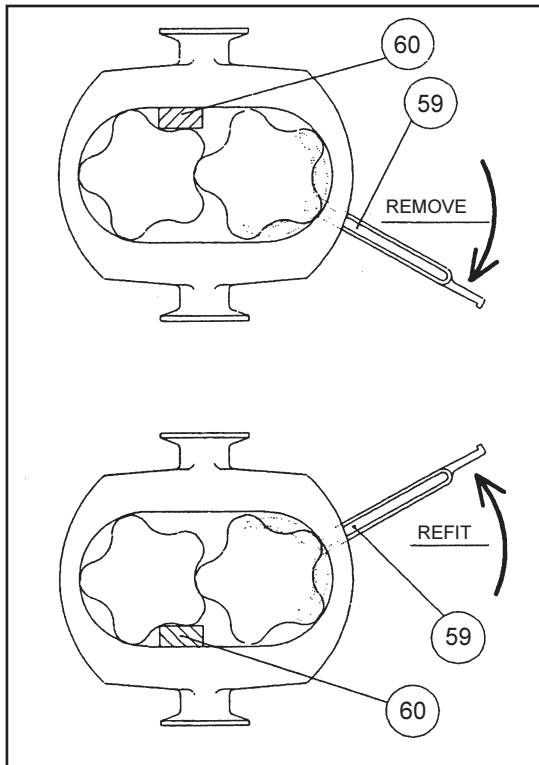

Figure 13
- a) Remove end cover - see Section 6.01. Loosen two hexagon socket screws (29) in each rotor retainer by **HALF TURN ONLY**.
- b) Lock the pump rotors with a soft spacer - a plastic block (92) is supplied for this purpose. Unscrew each rotor retainer (28) in turn, to push the rotors forwards, using the tool supplied (91) - see Figure 13.
- e) Take care not to damage the rotors and especially the smooth face of the mechanical seal (56) which is pressed in the back. Do not attempt to remove the seat unless you intend to fit a new seal (56) or cup rubber (49).
- d) Tighten each retainer using the plastic block to lock the pump. Do not hit the tool handle with another tool - hand tight is sufficient. Tighten the two hexagon screws in each rotor retainer to prevent it from loosening (See Figure 13).